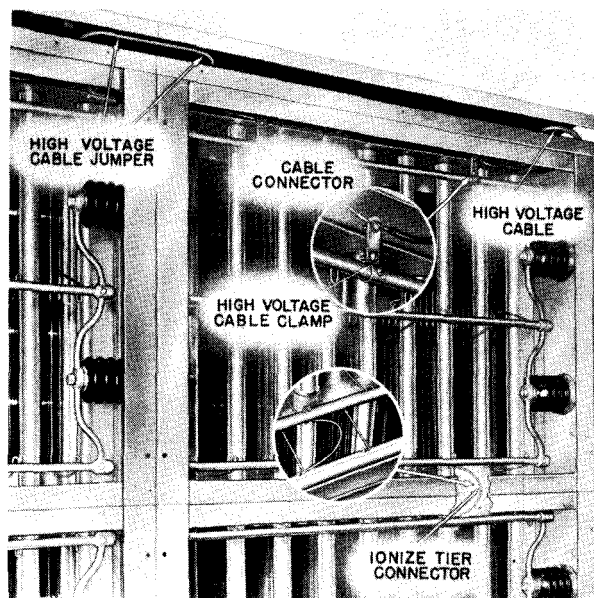

Fig. 32. High Voltage Ionizers Connections
**Cable Terminal Connectors.** Connectors are furnished with the top plate hardware and are installed as shown in Figs. 32 & 33.
**Ionizer Tier Connectors** are furnished with the frame hardware and plug into position as shown in Fig. 32. One connector is required vertically between each frame.